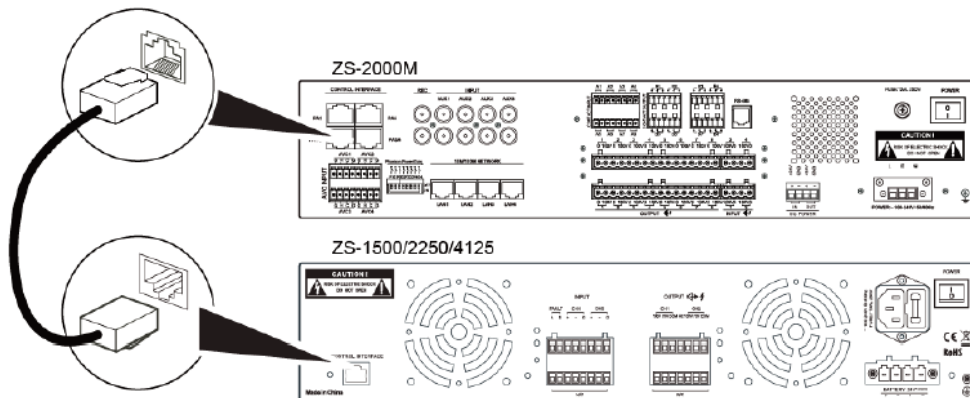

Figure 15 Connecting the RJ45 Audio Cable to the ZS-2000M and ZS-1500/ ZS-2250/ ZS- 4125
1. Connect the ZS-1500/ZS-2250/ZS-4125 RJ45 port to the ZS-2000M control port using the audio input lines that are included in the package containing the ZS-1500/ZS-2250/ZS-4125, as shown in Figure 15.